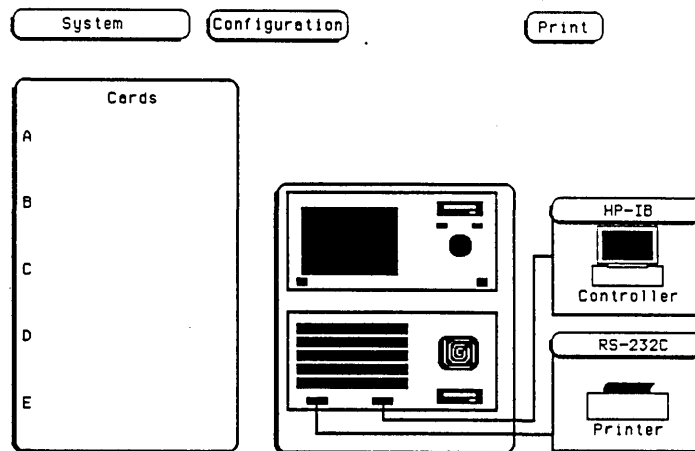

Figure 4-10. System Configuration
10. After the operating system has been reloaded, the System Configuration will be redisplayed (figure 4-10).